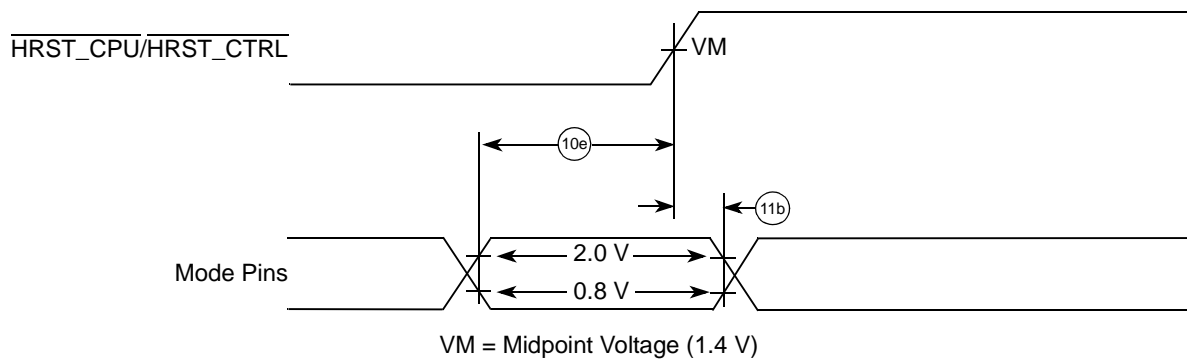

Figure 13. Input Timing Diagram for Mode Select Signals
- All mode select input signals specifications are measured from the TTL level (0.8 or 2.0 V) of the signal in question to the $V_{\text{M}} = 1.4$ V of the rising edge of the $\overline{\text{HRST_CPU}}/\overline{\text{HRST_CTRL}}$ signal. See Figure 13.